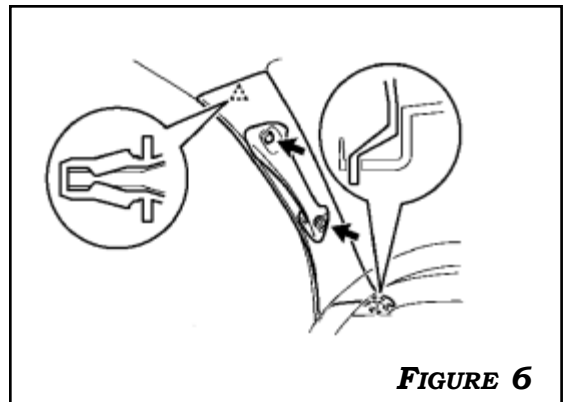

FIGURE 6
6. REMOVE (2) 10MM BOLTS AND DISENGAGE THE CLIPS TO REMOVE DRIVER SIDE FRONT PILLAR GARNISH. **FIGURE 6**